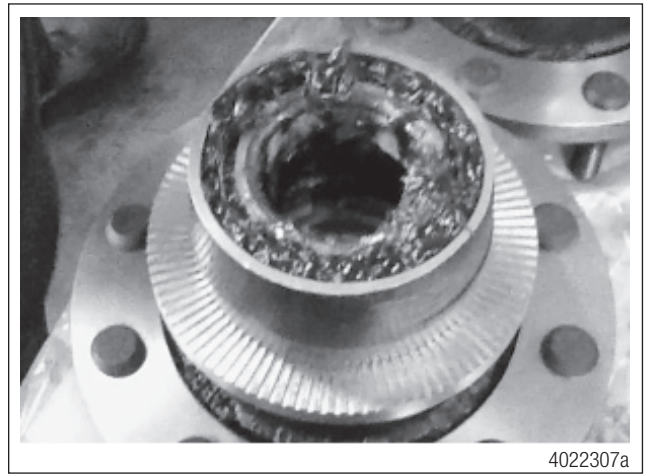

Figure 19
3. Install the inner bearing cone inside the hub assembly. Figure 19.